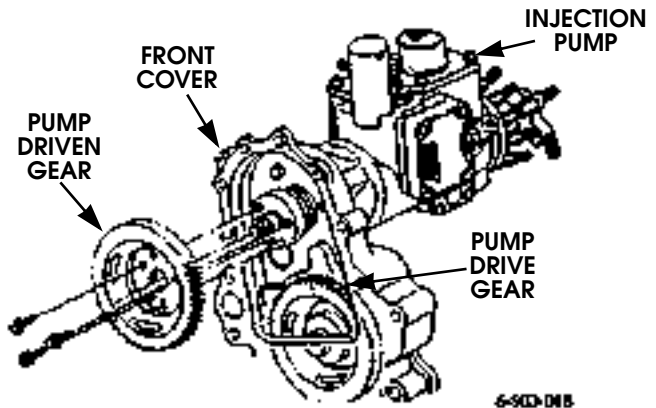

Figure 3-56: Fuel Injection Pump
12. Remove pump (Figure 3-56).